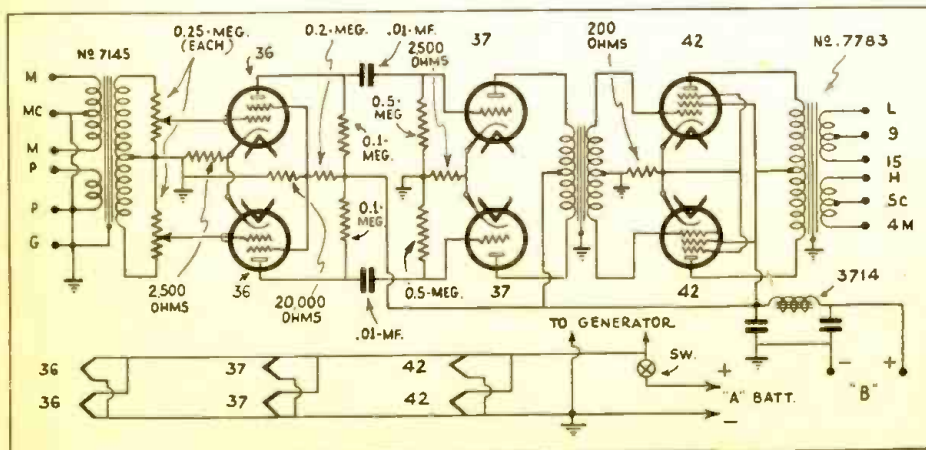

Fig. 1
(1) Contact points Nos. 10, 12, 19, and 22 on the rotary switch are strapped together but are not connected to any element on the test sockets;
(2) Contact points Nos. 15 and 26 are strapped together but, as in the above case, they are not connected to any element on the test sockets;
(3) The H terminal on the 6-prong socket is shorted to K of the same socket;
(4) There is no provision for testing H with the C.G. clip, or S.G. with the C.G. clip. I am constructing the test panel, unit by unit, and I have started with F of Fig. 1 as that is the unit I need most at present. When finished, there will be eight panels which will be interconnected as one.